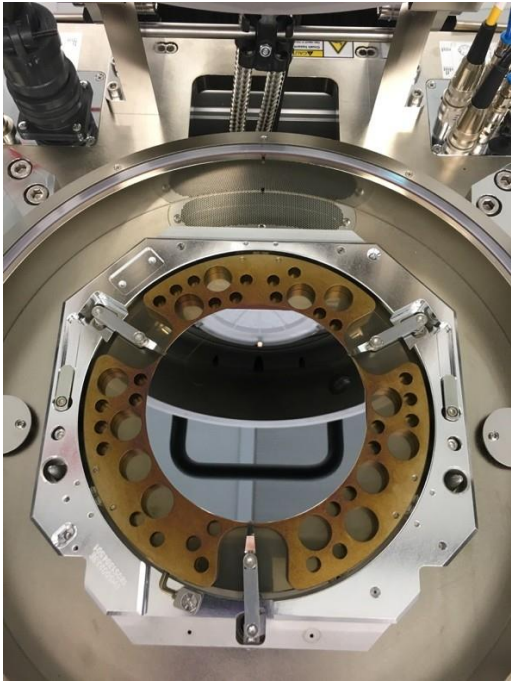

Figure 2: Correct alignment of a Si wafer on the heating chuck with spacers on top
3. Place and align Si wafer on the heating chuck, with the wafer flat on the top side. Check one more time for any particles on the surface using the green flashlight available. See Figure 2 for correct alignment example.
4. Place all three spacers on the Si wafer, so they point towards the center of the wafer with as minimal contact as possible. See Figure 2 for correct spacer positioning.